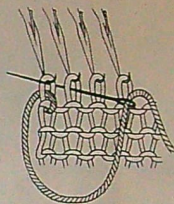

Fig. 64
- 2) Insert the needle into the second stitch and back through the first stitch. As shown in Fig. 64.